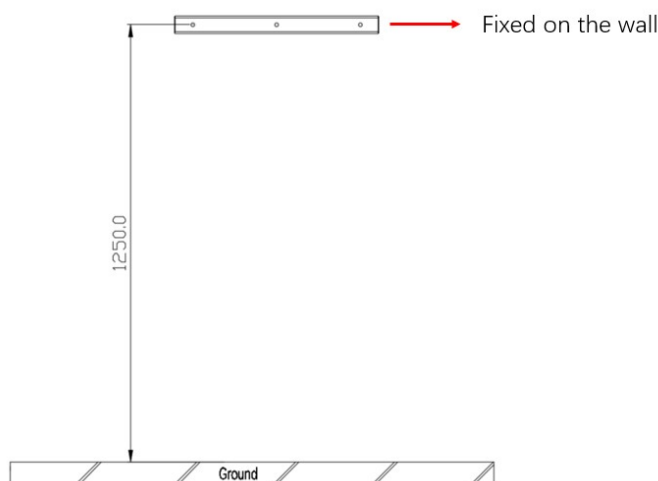

Figure 9 Installation of mounting bracket
(2) Select drill bit of  $\varnothing 12$  and use the electric hand drill to make holes with the diameter of 8mm at the marked hole position (Note: the drilling depth is about 70mm). Take out the black caps on the mounting bracket and use  $M8 \times 50$  expansion screws installs the mounting bracket on the wall through the three holes on the upper part and tighten it, as shown in Figure 9.